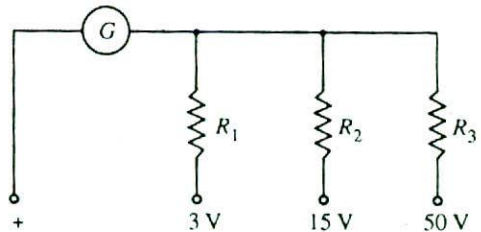

Fig. 24.26
2. The three range voltmeter is arranged as shown in Fig. 24.26. The ranges are 0 to 3 V , 0 to 15 V and 0 to 50 V as marked. If the full scale deflection current is 10 mA , what should be the values of R_1 , R_2 and R_3 ? The resistance of the meter is $5\ \Omega$. [$305\ \Omega$, $1505\ \Omega$, $5005\ \Omega$]